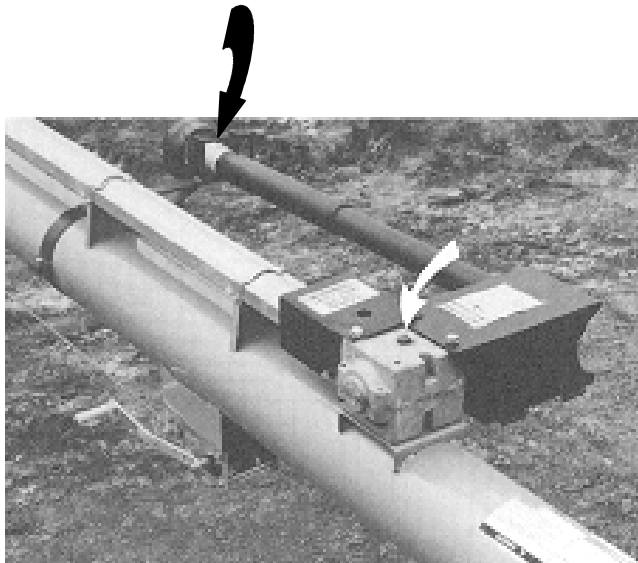

Fig. 31 PTO DRIVE
4. To fasten the cone, line up the cone grease fitting over the grease filling hole on the collar bearing. Check that all catches are engaged. The shield must turn freely over shaft. See fig. 31.
5. Install breather in gearbox and tighten. See fig. 31 and 32.